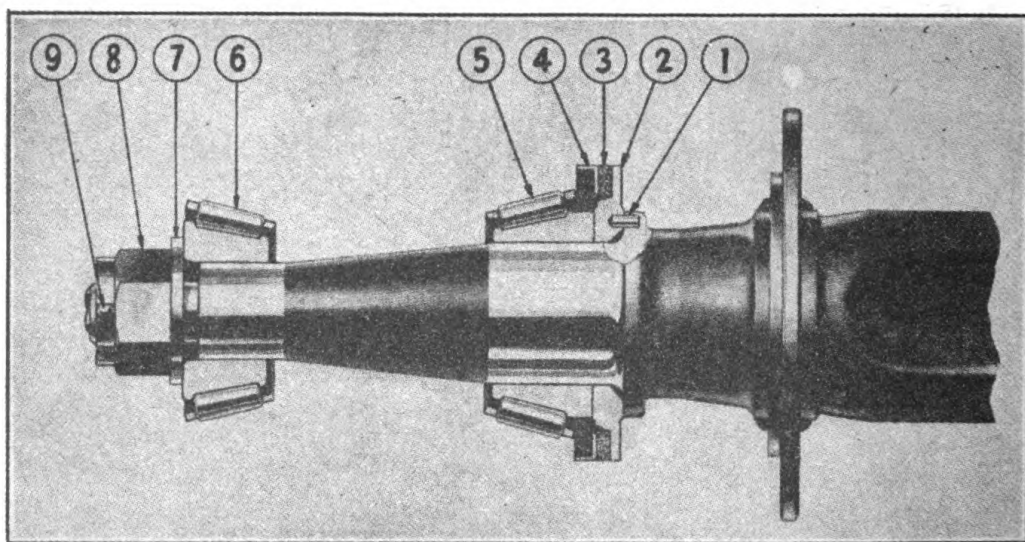

FIGURE 71. AXLE—CUTAWAY VIEW
(2) To install the hub, proceed as follows (Figure 71).
(3) *Installation of hub (Figure 71):* (a) Repack the space in the hub between the two cups with new grease. Put about a 1/8” layer of grease on the inner and outer bearing cups and repack both inner and outer bearings.